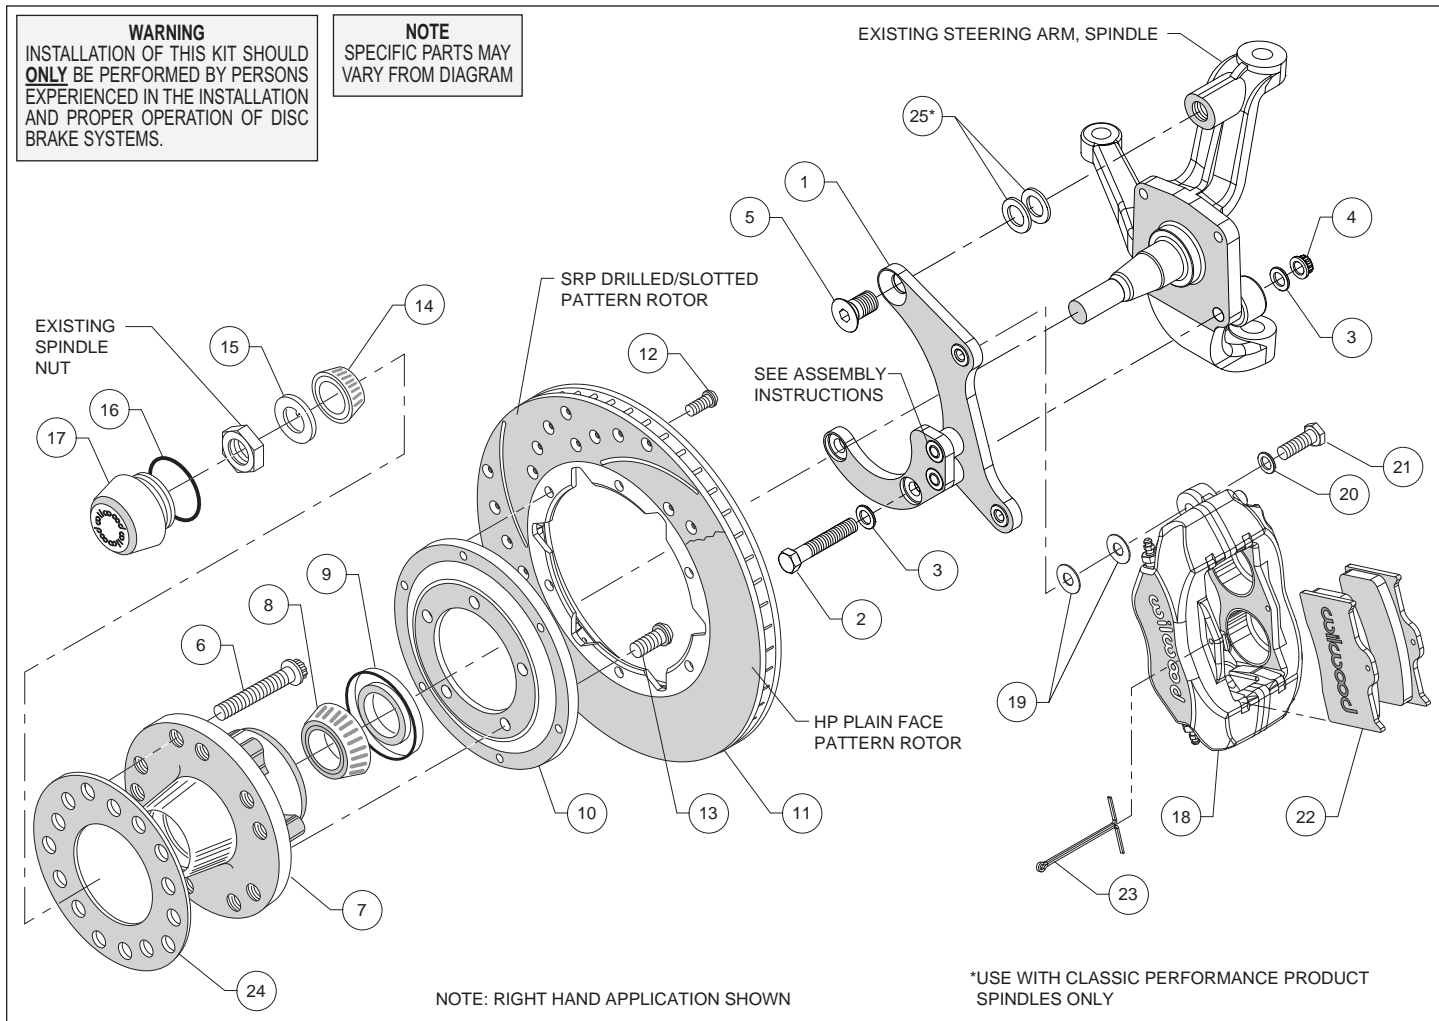
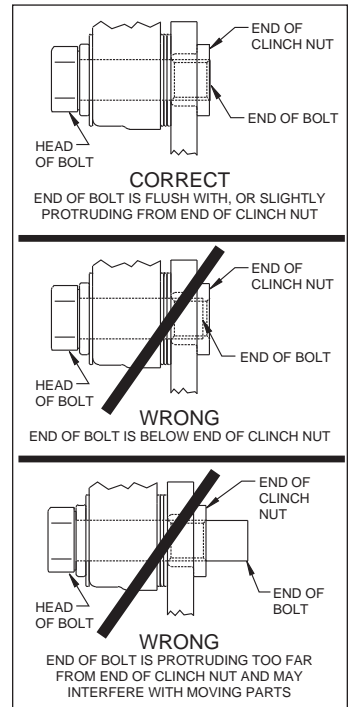

Figure 1. Typical Installation Configuration
Figure 4. Clinch Nut Engagement Diagram
**Assembly Instructions** (numbers in parenthesis refer to the parts list and Figure 1 on the preceding pages): **CAUTION:** All mounting bolts must fully engage clinch nuts. Be sure to check that all bolts are either flush or protruding through flanged side of clinch nut after shimming, Figure 4.
- The caliper mounting bracket (1) has been assembled at the factory for alignment purposes. Loosen the two bolts that secure the brackets together so that the bolts are hand tight only, this will enable the bracket assembly to be adjusted to accommodate various spindle tolerances during assembly. Orient the bracket as shown in Photo 1 and Figure 1, and install to lower mount holes using bolts (2), washers (3), and lock nuts (4), Figure 1 and Photo 1. Do not tighten yet.
- For Classic Performance Products spindles only:** Initially use two .024" thick shims (25) on upper mount bolt between bracket and spindle, Figure 1. While test fitting bracket assembly per the instructions below, check that the bracket is parallel to the rotor. If not, add or subtract shims (25) between the bracket and spindle.
- Install bolt (5) in the upper bracket hole. Temporarily tighten all of the bracket mounting bolts. Ensure that the flanged heads of the clinch nuts in the bracket are facing outboard, Photo 1. **NOTE:** The bracket must fit squarely against the mounting points on the spindle. Inspect for interference from casting irregularities, machining ridges, burrs, etc. Torque lower lock nuts to 47 ft-lb. Remove the upper bolt, apply red *Loctite*® 271 to threads, and torque to 140 ft-lb. Remove one at a time the bolts that secure the bracket assembly to each other, apply red *Loctite*® 271 to the threads and torque to 40 ft-lb.
- Install wheel studs (6) into the hub (7), Photo 2. Torque to 77 ft-lb. **NOTE:** There are two five lug patterns in the hub (5 x 4.50 and 5 x 4.75). Ensure the correct hub stud pattern is being used to fit the wheel application.
- Pack the large inner bearing cone (8) with high temperature disc brake bearing grease (available from your local auto parts store) and install into the backside of the hub (7), Photo 3.
- Install the grease seal (9) by pressing into the backside of the hub (7), flush with the end of the hub, Photo 3.
- Orient the rotor (11) and the rotor adapter (10) as shown in Figure 1 and Photo 4. Attach the rotor to the adapter using bolts (12). Using an alternating sequence, apply red *Loctite*® 271 to the threads, and torque to 25 ft-lb.
- Mount the adapter/rotor assembly (10/11) to the hub (7) using bolts (13), as shown in Figure 1 and Photo 5. Using an alternating sequence, apply red *Loctite*® 271 to the threads, and torque to 45 ft-lb.
- Pack the small outer bearing cone (14) with high temperature disc brake bearing grease and install into hub (7). Slide the hub/rotor assembly onto the spindle. Secure using spindle washer (15) and OEM spindle nut, Photo 6. Bearing adjustment: Tighten the nut while turning the hub. When there is a slight bind on the bearings, they are seated correctly. Back the nut off about 1/6 to 1/4 of a turn, or sufficiently to allow .001" to .007" end play. **WARNING:** Failure to back off adjusting nut could cause bearing to run hot and be damaged, which could cause the wheel to lock or come off. Install OEM spindle nut retainer and new cotter pin (not supplied).
- Screw dust cap (17) into hub (7), Photo 7. Friction created by the o-ring (16) on the dust cap keeps it from unscrewing. **NOTE:** The O.D. of the existing OEM spindle washer may be larger than the I.D. of the dust cap not allowing it to seat against the hub face. Therefore, use the spindle washer (15) supplied with the kit instead of the OEM washer.
- NOTE:** Please reference the caution statement at the beginning of the assembly instructions. Mount the caliper (18) onto the caliper mounting bracket (1) using bolts (21) and washers (20), as shown in Figure 1. Initially place two .035" thick shims (19) on each bolt between the caliper and the bracket, Photo 8. Temporarily tighten the mounting bolts and view the rotor (11) through the top opening of the caliper. The rotor should be centered in the caliper, Photo 9. If not, adjust by adding or subtracting shims between the bracket and the caliper. Always use the same amount of shims on each of the two mounting bolts. **NOTE:** The end of each bolt must be flush with or slightly protruding from the head of the clinch nut, as shown in Figure 4. If necessary place spare shims between washer (20) and caliper mounting ear to achieve the proper clinch nut engagement.